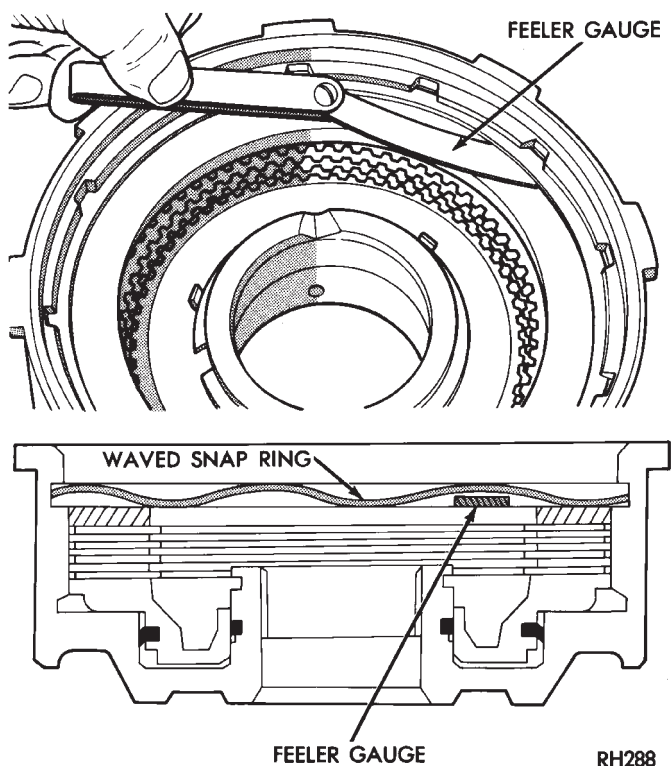

Fig. 65 Measuring Front Clutch Pack Clearance
(10) Install reaction plate and waved snap ring.
(11) Check clutch pack clearance with feeler gauge as follows (Fig. 65):